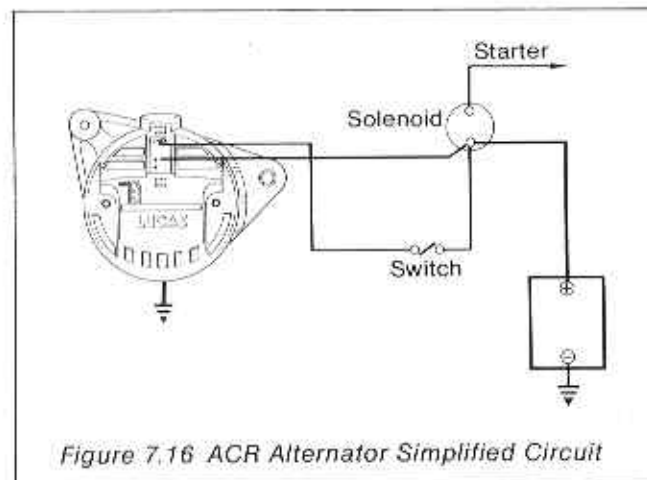

Figure 7.16 ACR Alternator Simplified Circuit
7.35 Figure 7.16 shows the alternator (European Termination) connections. It consists of two large '+' Lucar connections and a small 'IND' connector. The negative connection is made through the alternator body. The two Lucar '+' connectors give a better mechanical grip for the socket, but there is only a single cable to the battery.